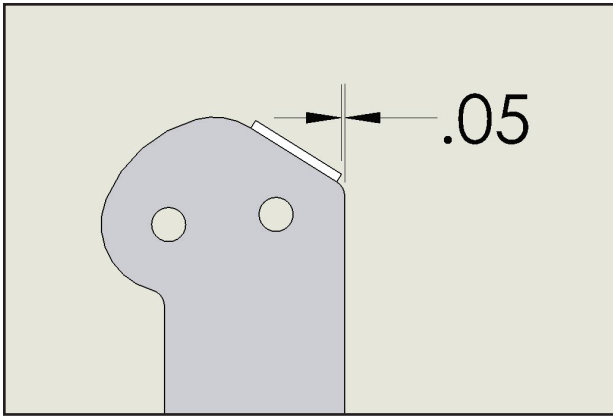
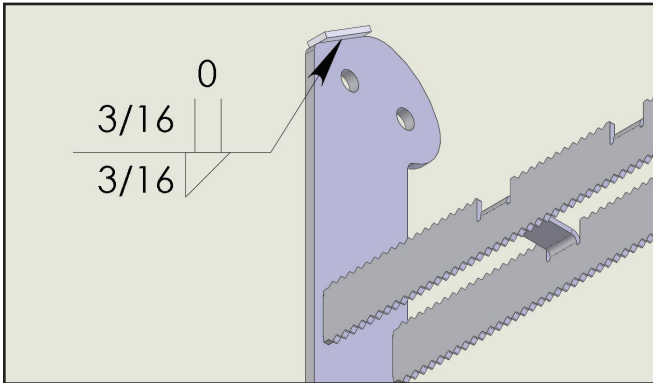

Figure 5
Figure 6
8. Weld the piece of 10 gauge from Step 7 to the ladder stop as shown in Figure 5 and Figure 6. Repeat on other side of lower ladder.